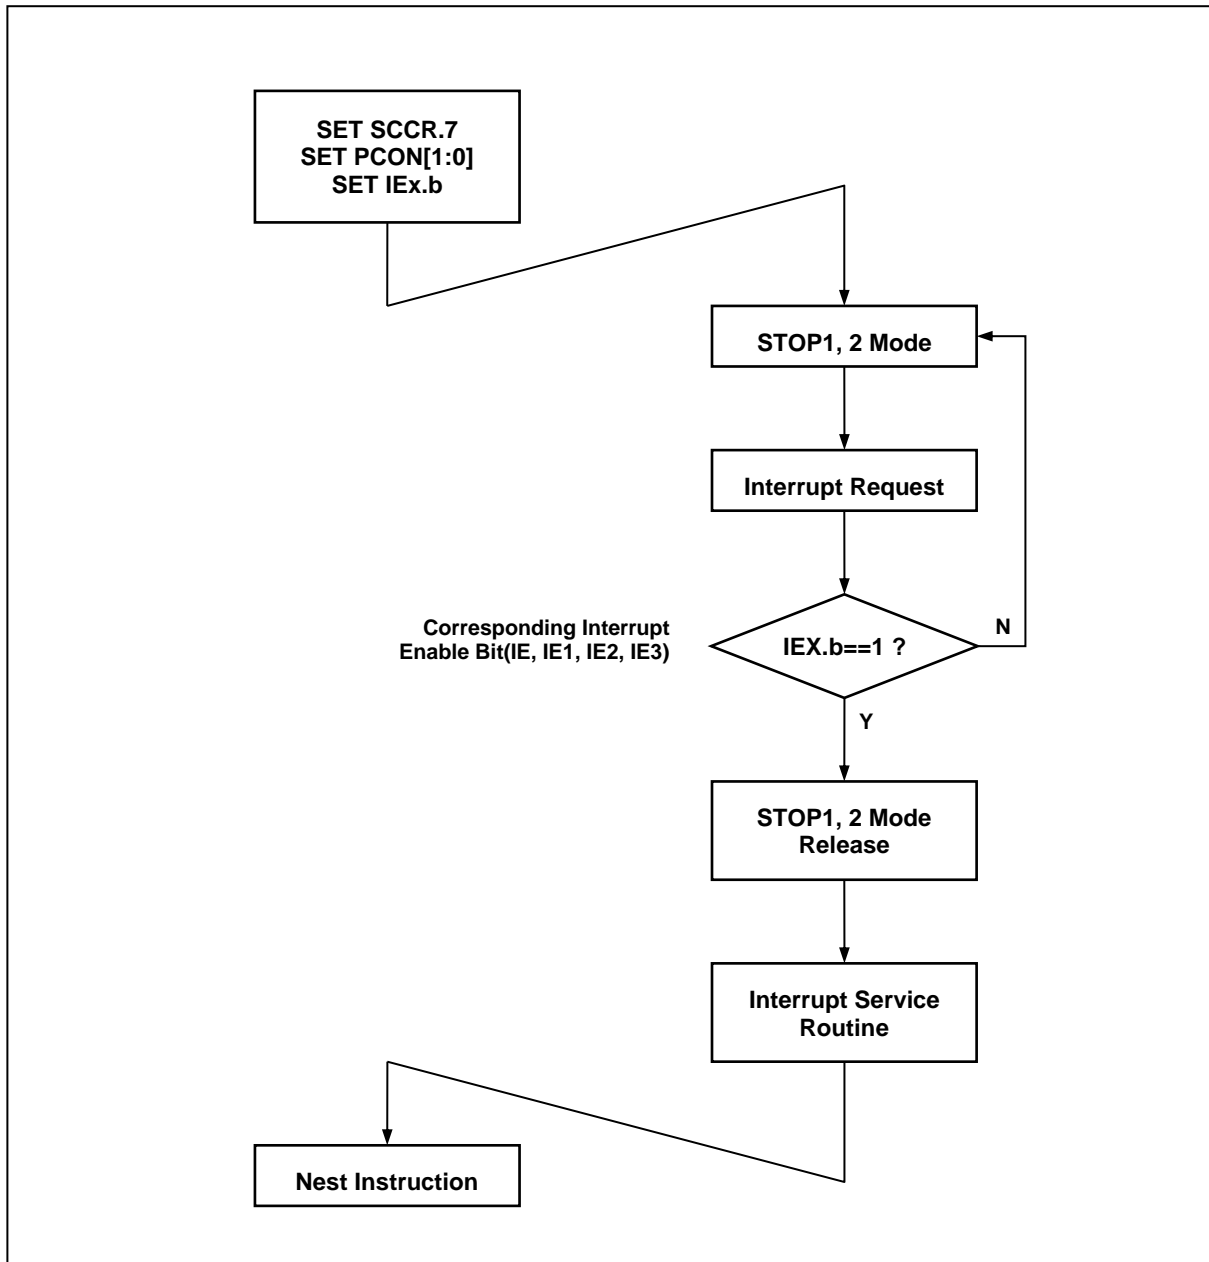

Figure 12.5 STOP1, 2 Mode Release Flow
After STOP1, 2 mode is released, the operation begins according to content of related interrupt register just before STOP1, 2 mode start (Figure 12.5). Interrupt Enable Flag of All (EA) of IE should be set to `1`. Released by only interrupt which each interrupt enable flag = `1`, and jump to the relevant interrupt service routine.